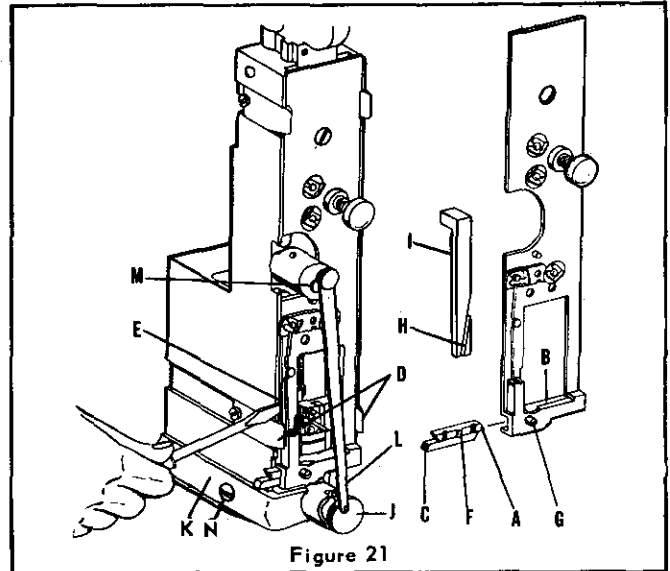

Figure 21
**J. Wire Cutters (Figure 21)**
3. Lift end of spring (Index L, Figure 21) out of bottom swivel.
5. Slip the swivel operating cam (Index M, Figure 21) forward and off the stud.
9. Remove the cutter operating slide (Index I, Figure 21).
**M. Swivel (Figure 21)**